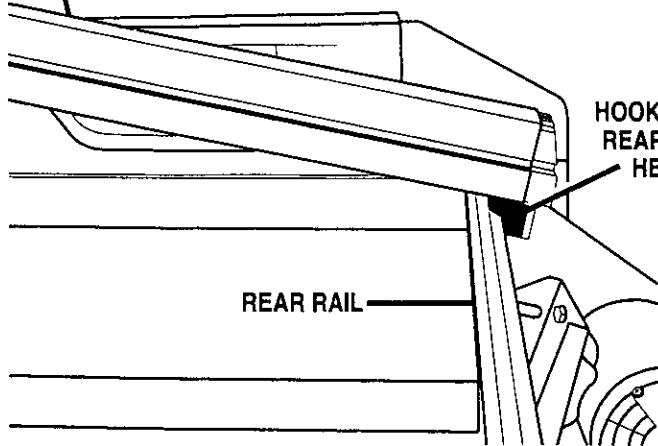
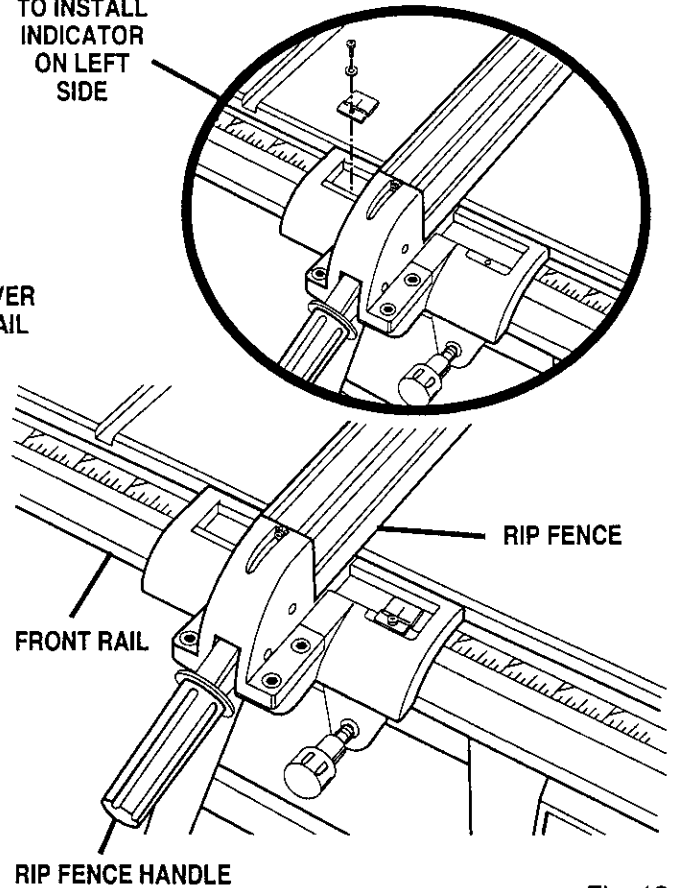

Fig. 12
Fig. 13
- Hook the back of the rip fence over the rear rail. *See Figure 12.* Lower the front of the rip fence into the groove on the front rail. *See Figure 13.*